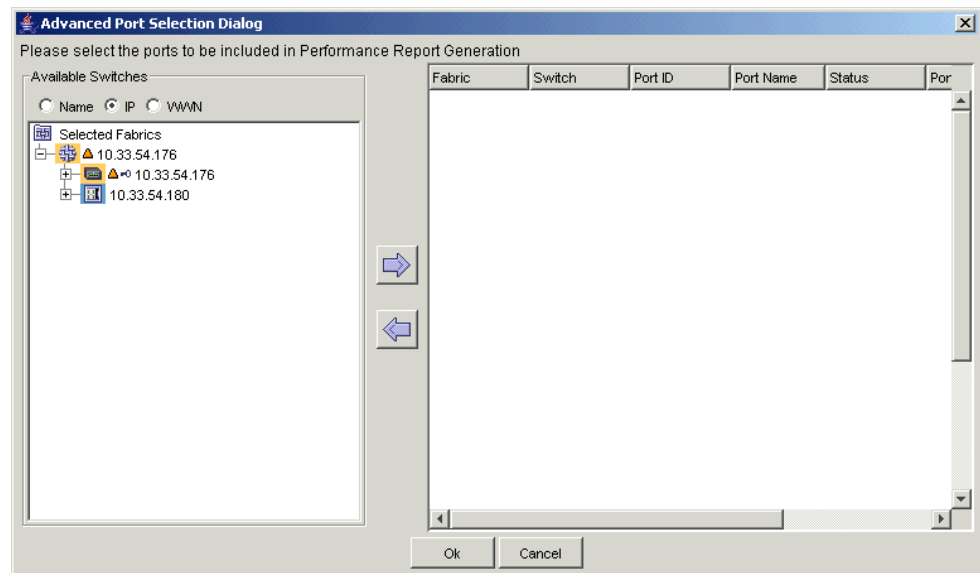

Figure 23: Selecting Ports for Custom Performance Monitor Reports
- To select specific ports to filter, click **Advanced Port Selection** and then click **Select Ports**. The Advanced Port Selection dialog box opens (see Figure 23).
- b. Click **Select Ports**. The Advanced Port Selection dialog box opens (see Figure 23 on page 130).